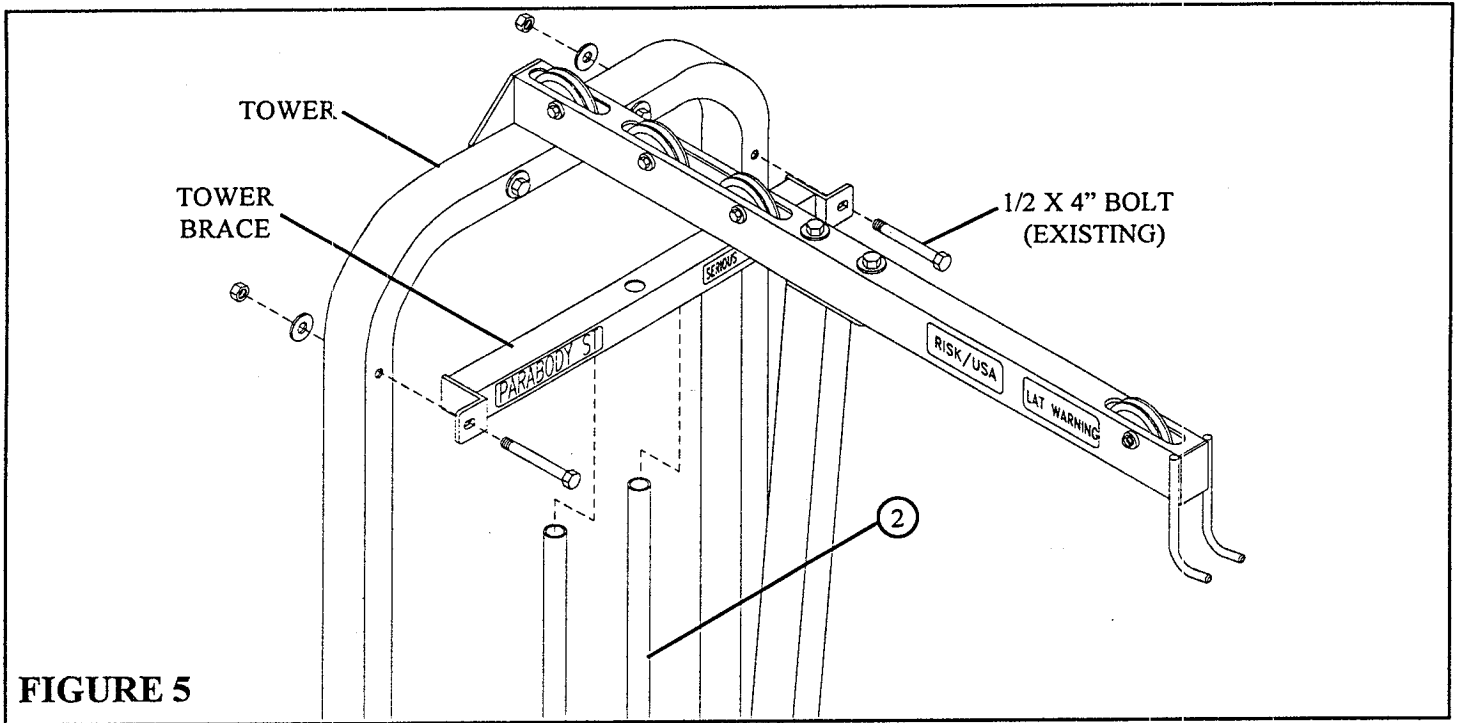

FIGURE 5
Place TOWER BRACE over the GUIDE RODS (2) and securely fasten TOWER BRACE to TOWER using previously removed 1/2" X 4" BOLTS, 1/2" WASHERS, AND 1/2" NUTS as shown in FIGURE 5.